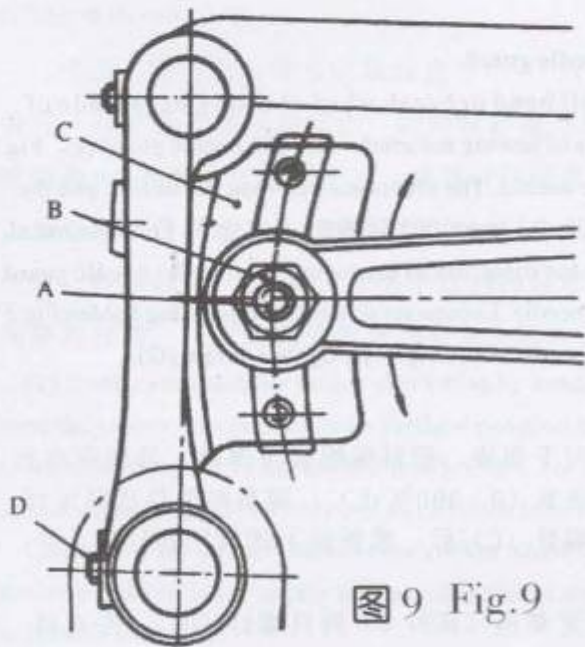

图9 Fig.9
送料牙在针板牙槽内的两侧面间隙不对称时，拧板牙架座(图9, C)两只螺钉(D)，左右移动牙架座至要求位置后再拧紧螺钉(D)。
If feed dog are not in the center in the throat plate slots, Loosen screws rear in the feed locker (C, Fig. 9), move the feed locker right or left as required. Then retighten screws(D).
针距长短的调节，是通过牙架座（图9，C）扇形槽中的针距调节螺钉（A）的上下移动来实现的。下降螺钉（A）使针距加大，升高则缩短针距。调节时拧松螺母（B）、上下移动螺钉（A）至需要的针距后再固紧螺母（B）。（自动型式的机器需卸下罩壳时再调节）
The length of the stitch can be adjusted by raising or lowering the stud(A) in the segment slot of the feed locker (C, Fig. 9). Lowering the stud will shorten the stitch. After loosening nut(B), Stud(A) can be moved accordingly. When the desired stitch length is obtained, Retighten nut(B). (For automatic style machines the cloth plate should be removed to adjust)